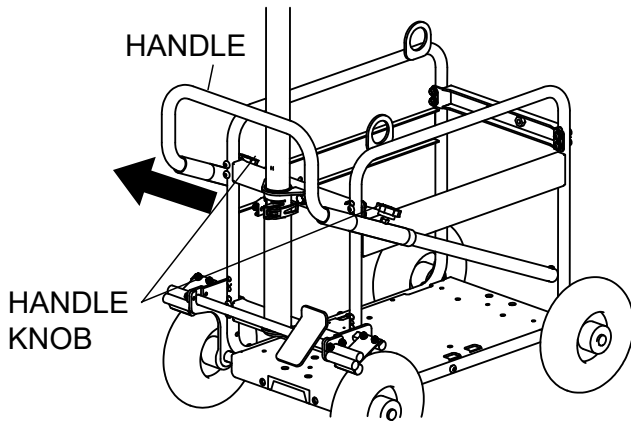

Figure 13. Pulling the Handle Out
1. Loosen the handle knobs on both sides of the cart (Figure 13).